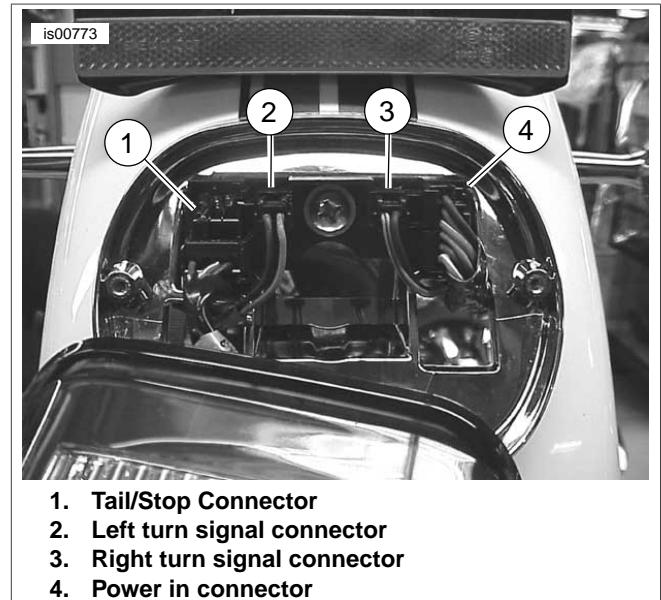

Figure 1. Remove Connectors
5. See Figure 1. Remove two screws and tail light lens from the tail light base. Disconnect the tail light connector (1) and set the tail light aside.
6. See Figure 1. Disconnect the turn signal connectors (2 and 3) and power in connector (4).
2. See Figure 1. Connect turn signals connectors (2 and 3), power in connector (4), and tail light connector (1). Route wires as shown.